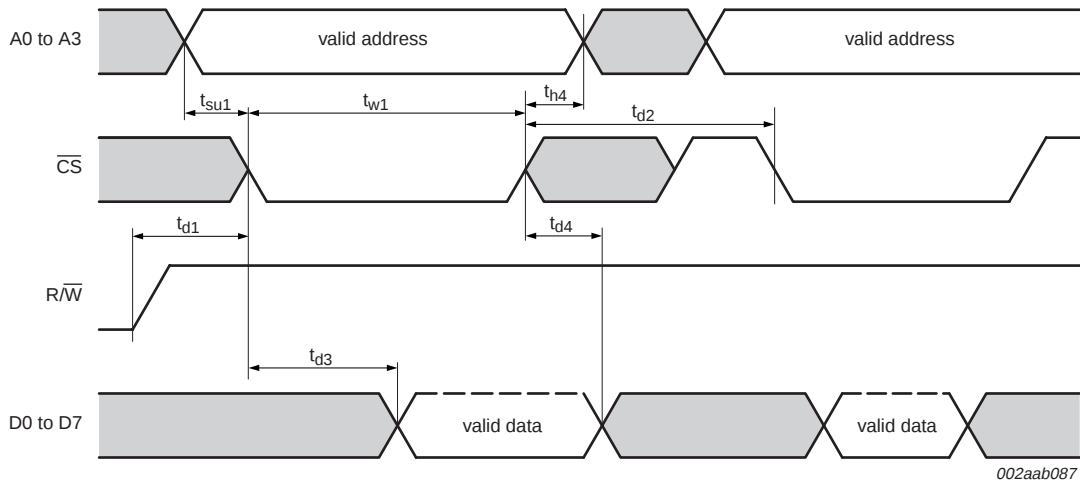

Fig 14. General read timing
(2) $\overline{CS}$ timing during a read cycle. See Figure 14.